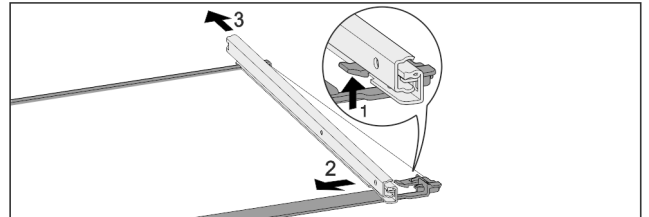

Fig. 117 Glass shelf with rails
- ▶ Push up front click-in hooks. Fig. 117 (1)
- ▶ Move the pull-out rails to the side Fig. 117 (2) and to the rear Fig. 117 (3).